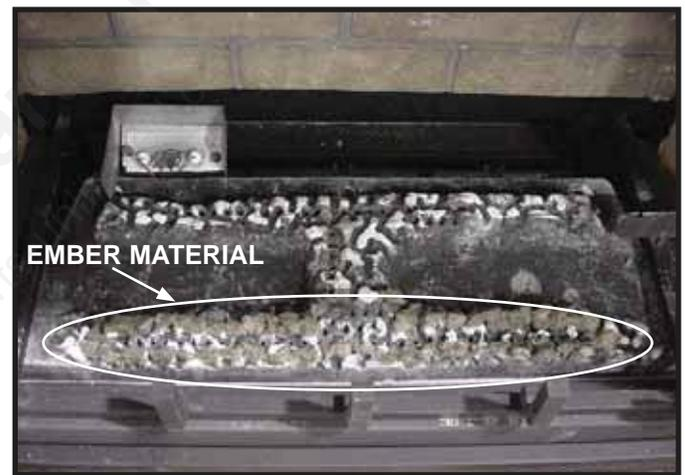

Figure 14.3 Placement of Embers
- Place dime-size pieces of Glowing Embers® just in front of the port trail, but not on or in between the ports (see Figure 14.3). Care should be taken so that the ports are not covered. Failure to follow this procedure will likely cause lighting and sooting problems.